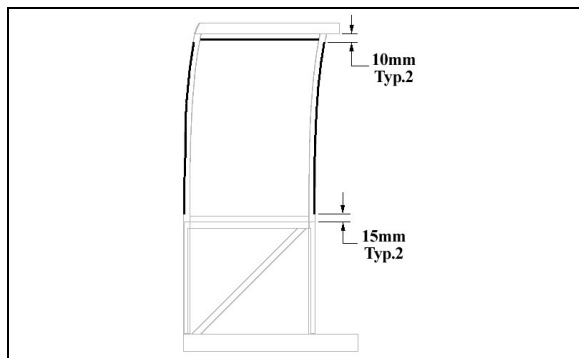

FIGURE 56 : SIDE WINDOW – $\frac{1}{4}$ X $\frac{1}{2}$ DOUBLE FACE ADHESIVE TAPE INSTALLATION
3. Apply 1/4" X 1/2" double face self adhesive tape on the slide-out structure for side fixed window (see FIGURE 56) [10mm≈3/8"] [15mm≈19/32"];